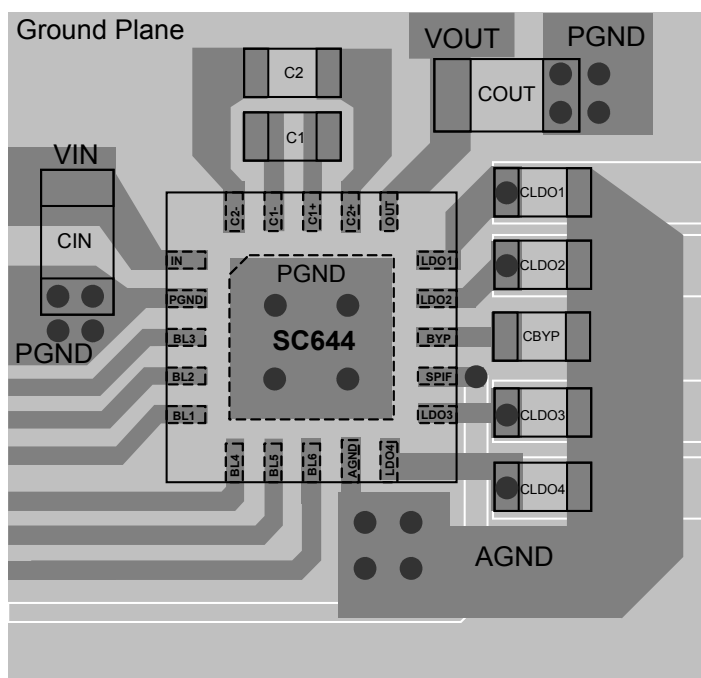

Figure 2 — Recommended PCB Layout
The layout diagram in Figure 2 illustrates a proper two-layer PCB layout for the SC644 and supporting components. Following fundamental layout rules is critical for achieving the performance specified in the Electrical Characteristics table. The following guidelines are recommended when developing a PCB layout:
- The following capacitors — CLDO1, CLDO2, CLDO3, CLDO4, and CBYP — should be grounded together. Connect these capacitors to the ground plane at one point near the AGND pin as shown in Figure 2.